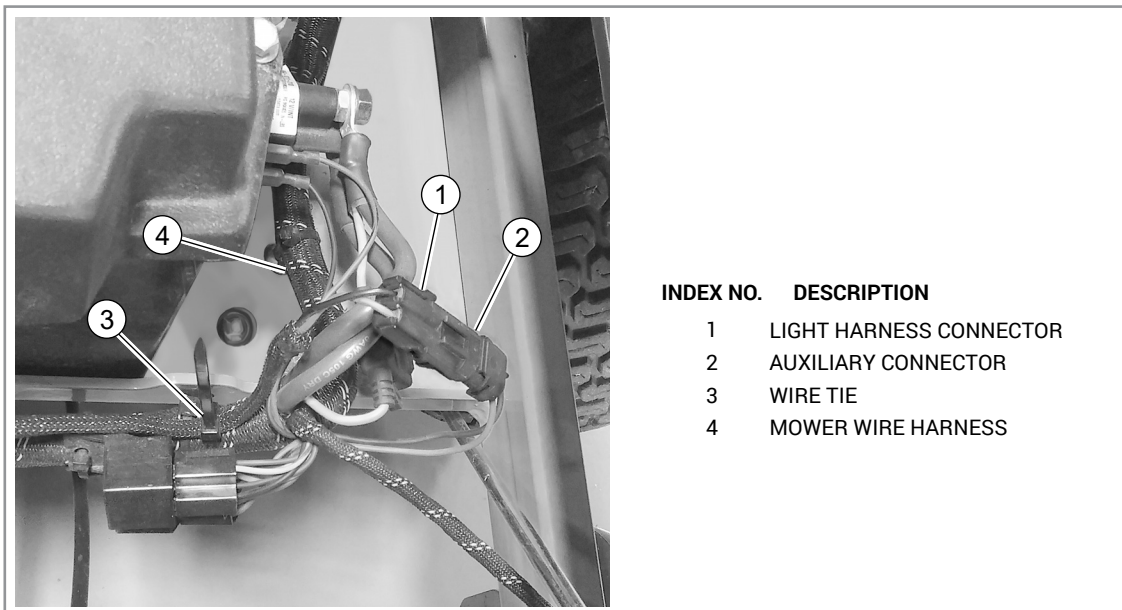

FIG. 7
14. Plug the light harness connector to the auxiliary connector for the mower. Attach the light harness to the mower wire harness with wire ties. Do not tighten. FIG. 7